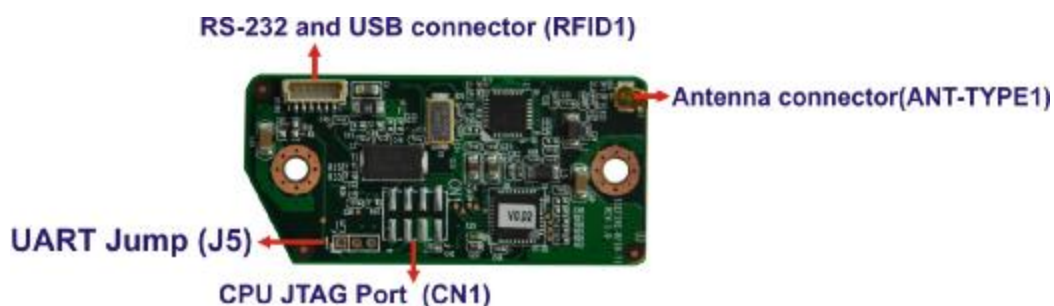

Figure 2-1: Connector and Jumper Locations
Figure 2-1 shows the on-board peripheral connectors.
**CN Location:** See **Figure 2-1**